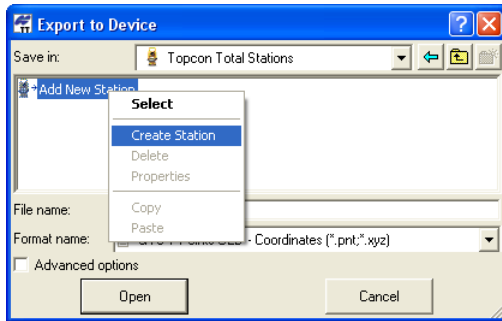

Figure 8-24. Creating a New Station
3. To add a device, right-click or double-click the icon ‘*Add New Station*’ and select *Create Station* from the pop-up menu (Figure 8-24).